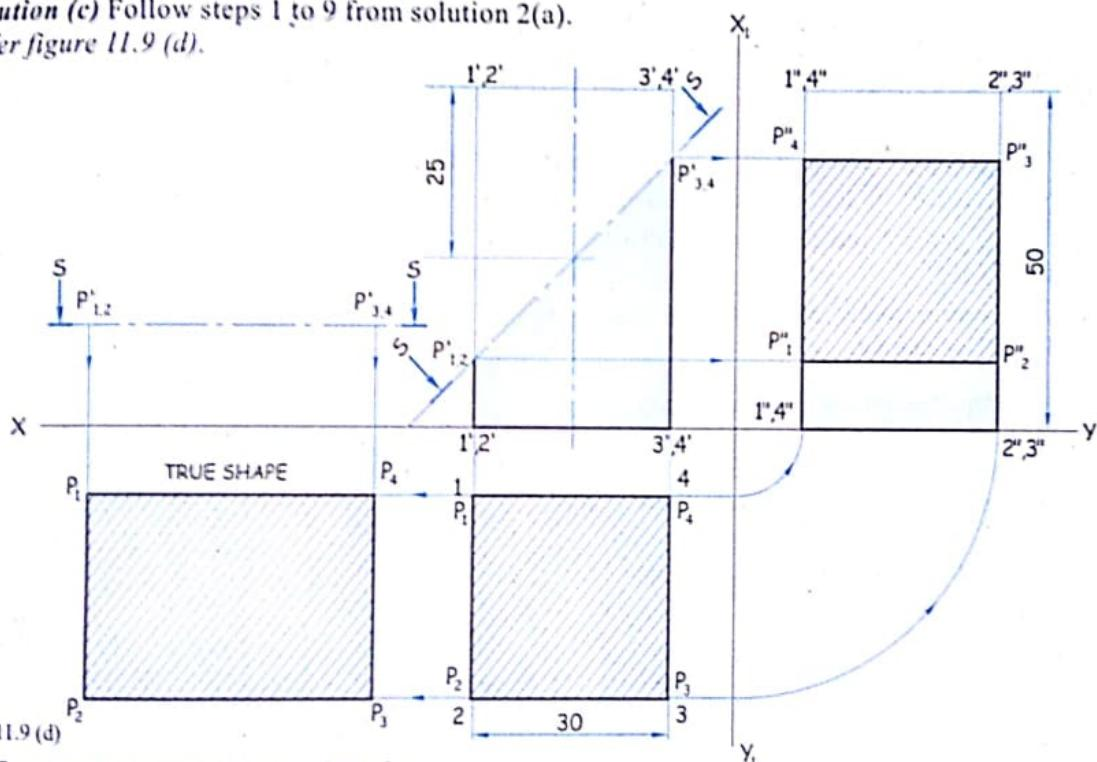

FIG 11.9 (d)
Refer figure 11.9 (d).
- Place the section plane  $S-S$  with points  $P'_1, P'_2, P'_3, P'_4$  parallel to the  $XY$  line as shown in figure 11.9 (d).